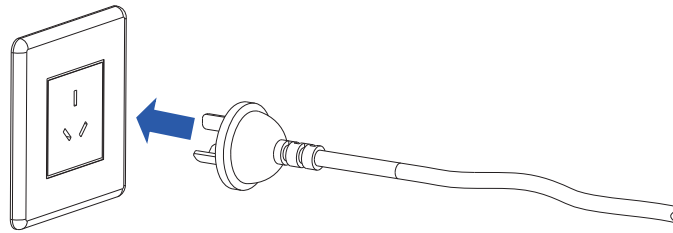

Figure 2-7 Plug the Power Cord
3. Plug the male end of the power cord into a live wall outlet. See Figure 2-7.